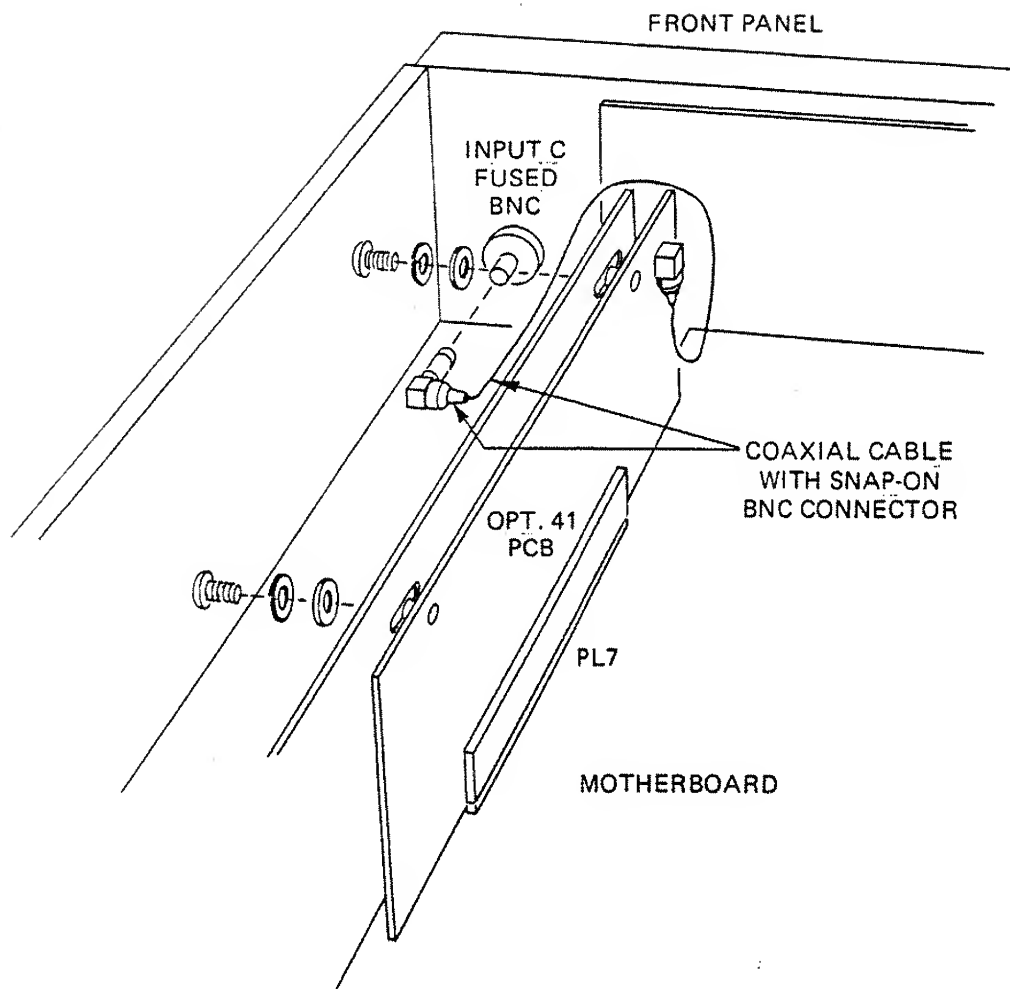

Figure 2.8 - Option 41 Installation
2.6.3.1 Refer to Figure 2.8 for this procedure. The installation package includes:
- a. Input C (1.3 GHz) PCB including coaxial cable with snap-on BNC connector (1) P/N 19-1142-S-125
- b. Fused BNC connector (1) P/N 601235
- c. #4 split lock washers (2) P/N 617127
- d. #4 flat washers (2) P/N 617102
- e. M3 x 8 screws (2) P/N 617067